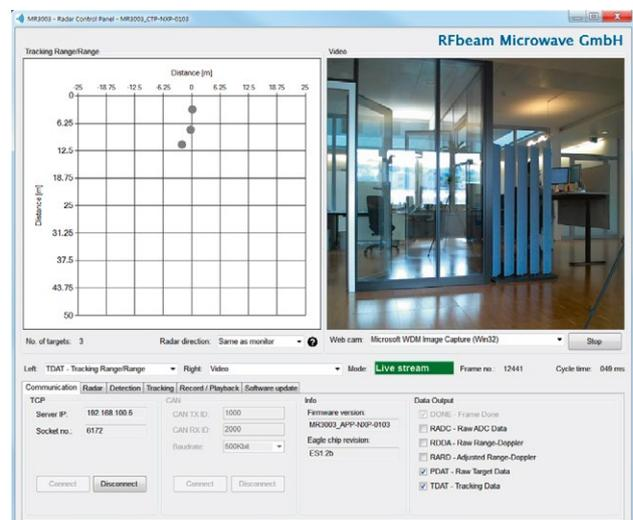

Figure 4: Default connected view
13. After connecting, the control panel will display the following View of Figure 4.